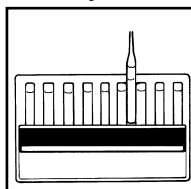

Figure 4
8. Obtain a test result by placing the ampoule between the color standards until the best color match is found (fig. 4).